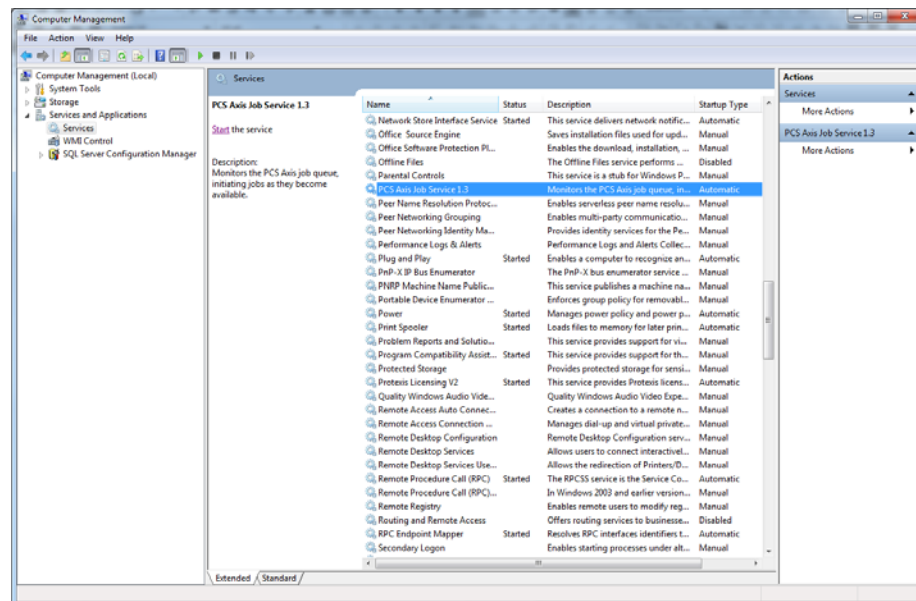

Figure 10-5. Computer Management Console
- 1 Click the Windows **Start** button  and right-click **Computer** to open a shortcut menu. Select **Manage** to open the *Computer Management* console (Figure 10-5).